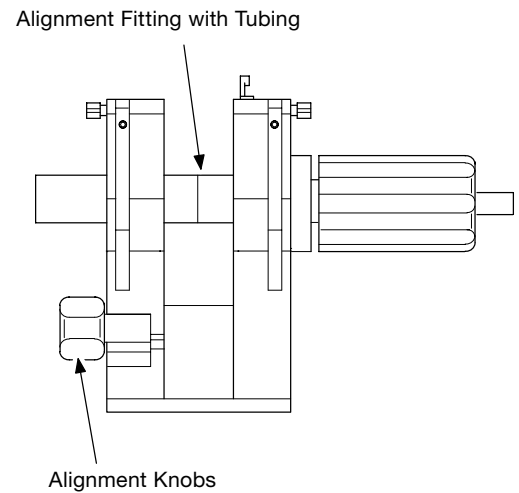

Figure 20 Aligning the Tubing
2. Align the tubing with the fitting. See Figure 20.